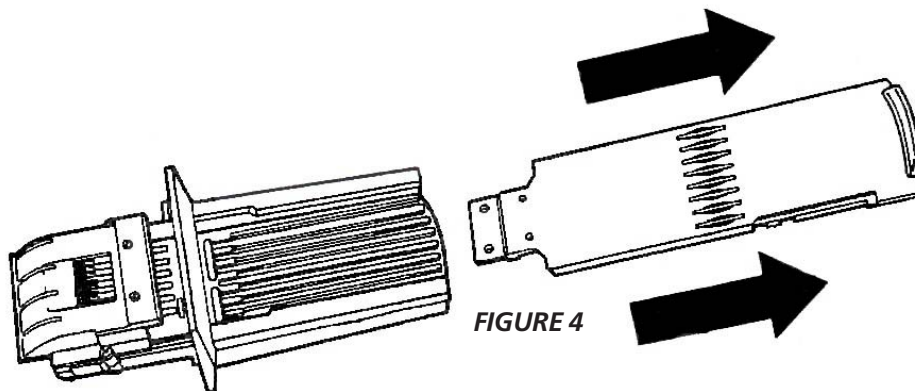

FIGURE 4
(2) Slide Stop Screws
- Pull coin slide out of coin chute (see FIGURE 4).